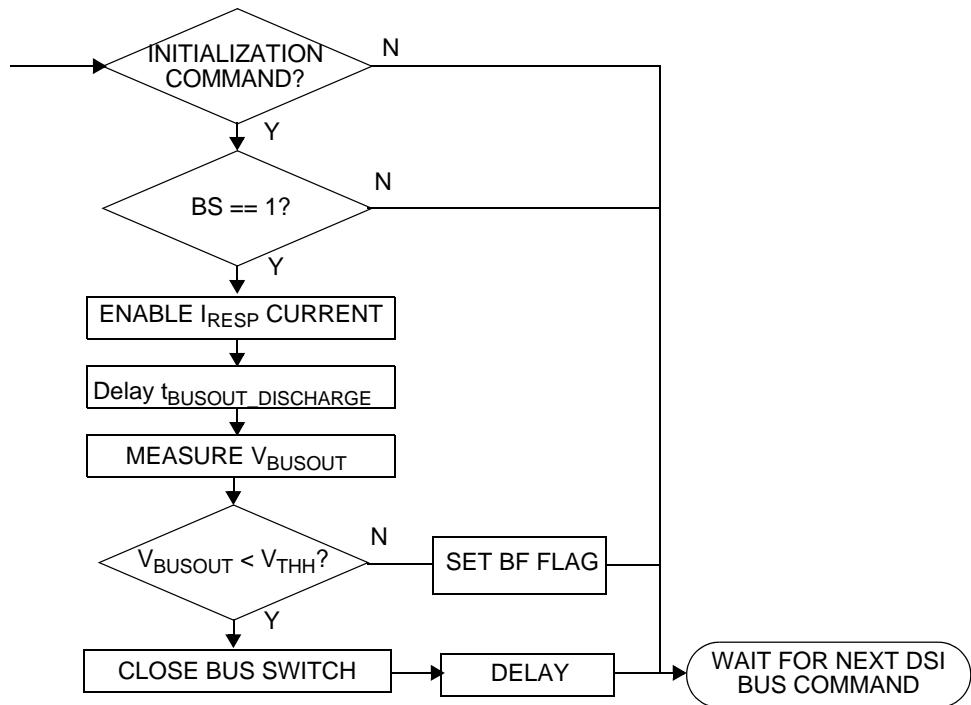

Figure 22. Initialization Sequence
Figure 22 illustrates the sequence of operations performed following negation of internal power-on reset (POR) and execution of a DSI Initialization command. The BUSOUT node is tested for a bus short to high voltage condition, and the bus fault (BF) flag is set if an error condition is detected. If no bus fault condition is detected and the BS bit is set in the Initialization command message, the bus switch will be closed. The device implements a blanking time ($t_{DSI_BLANK_INIT}$) to allow for the bus voltage to recover following closure of the bus switch.